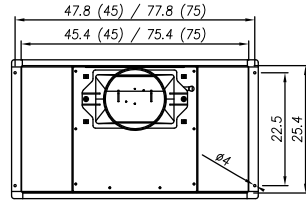

Fig. 2
- The screws needed to fasten the hood are contained in the bag of accessories which comes with the hood. (Fig. 2).